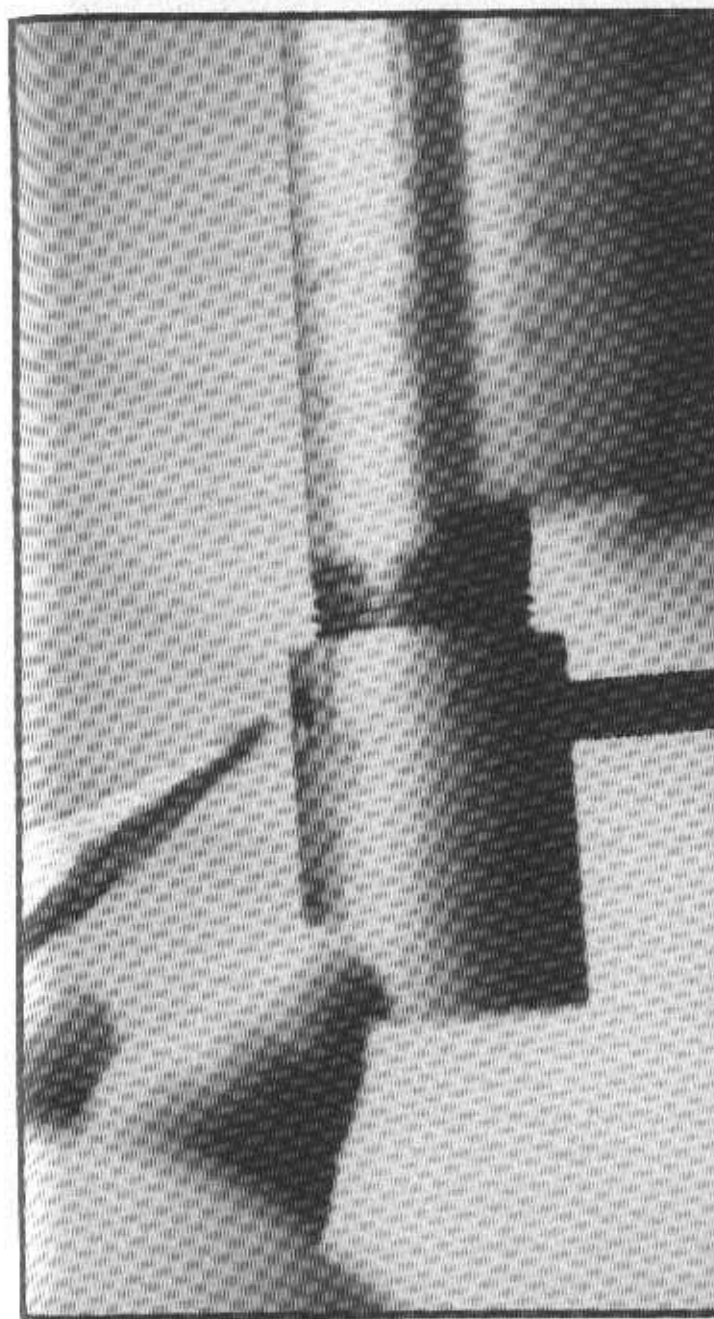

Figure 4-5
4. Mark the barrel threads with a prick punch where a flat spot is to be ground on the barrel threads. See Figure 4-5.